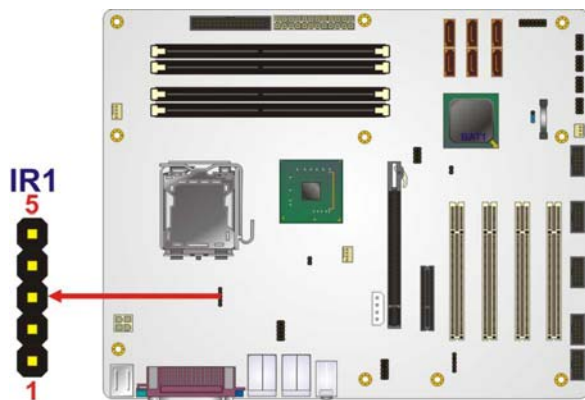

Figure 3-10: Infrared Connector Pinout Locations
- CN Location:** See **Figure 3-10**